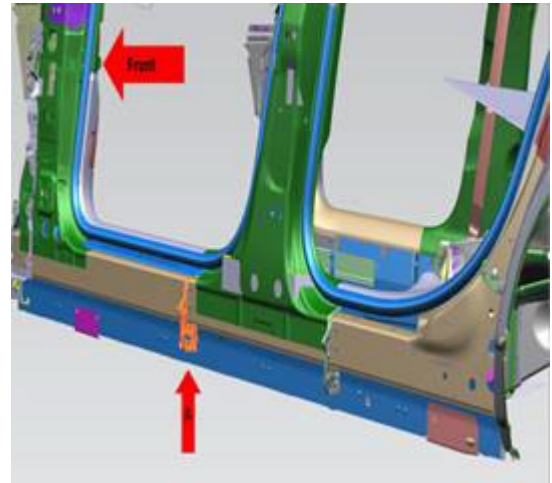

Figure 4. Location of the sound absorber.
4. Figure 4 shows the location of the sound absorber marked 'A'.